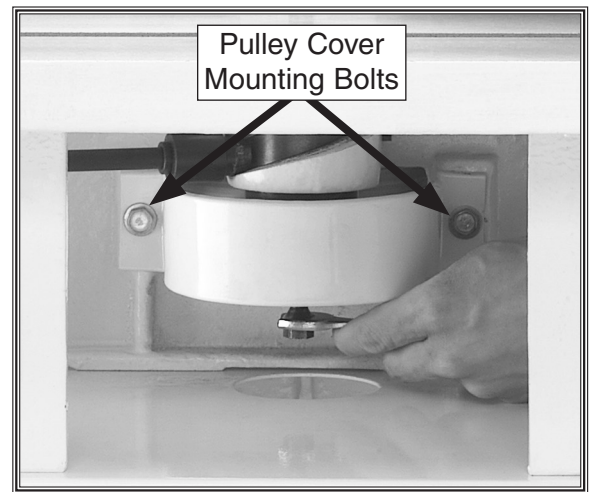

Figure 40. Location of pulley cover mounting bolts.
3. Take off the spindle pulley cover by removing the two mounting bolts shown in **Figure 40**.